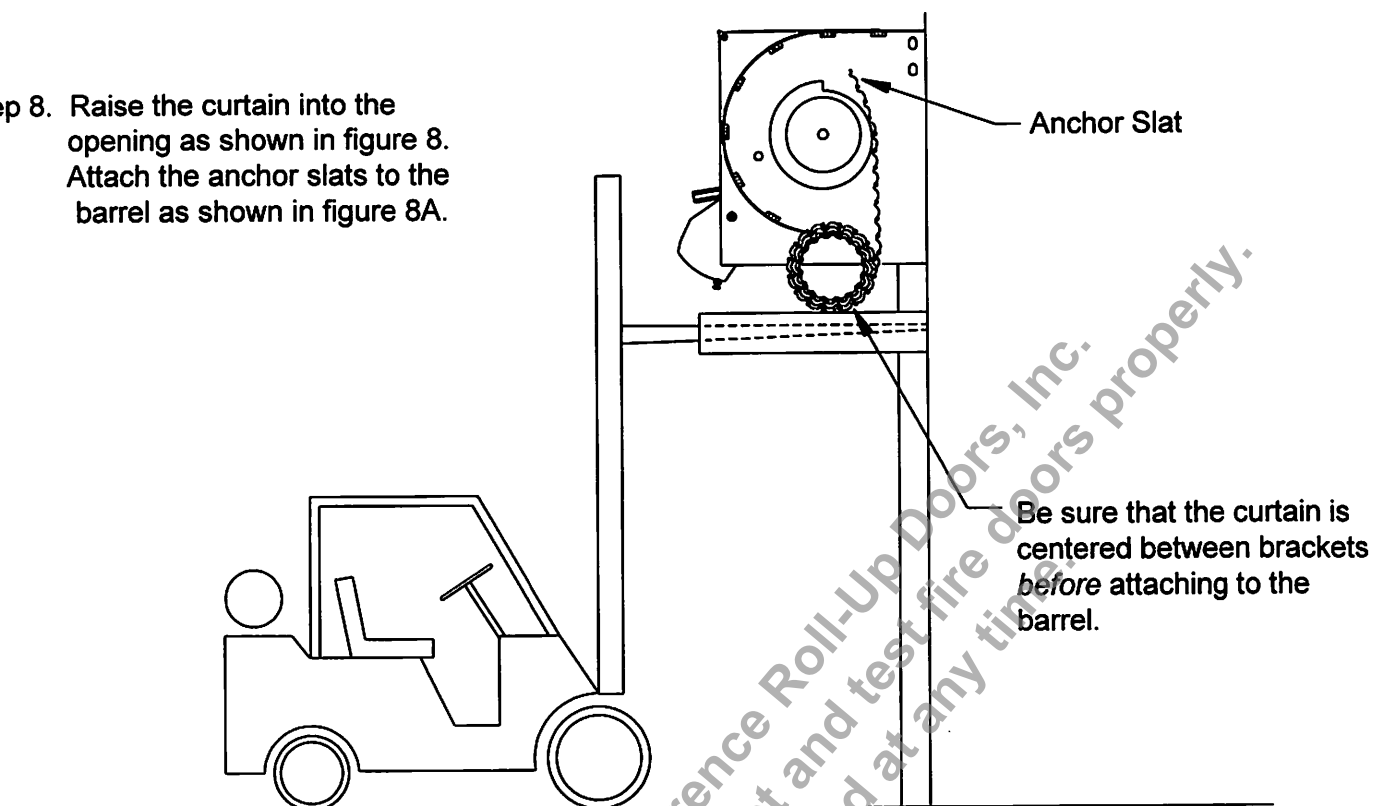
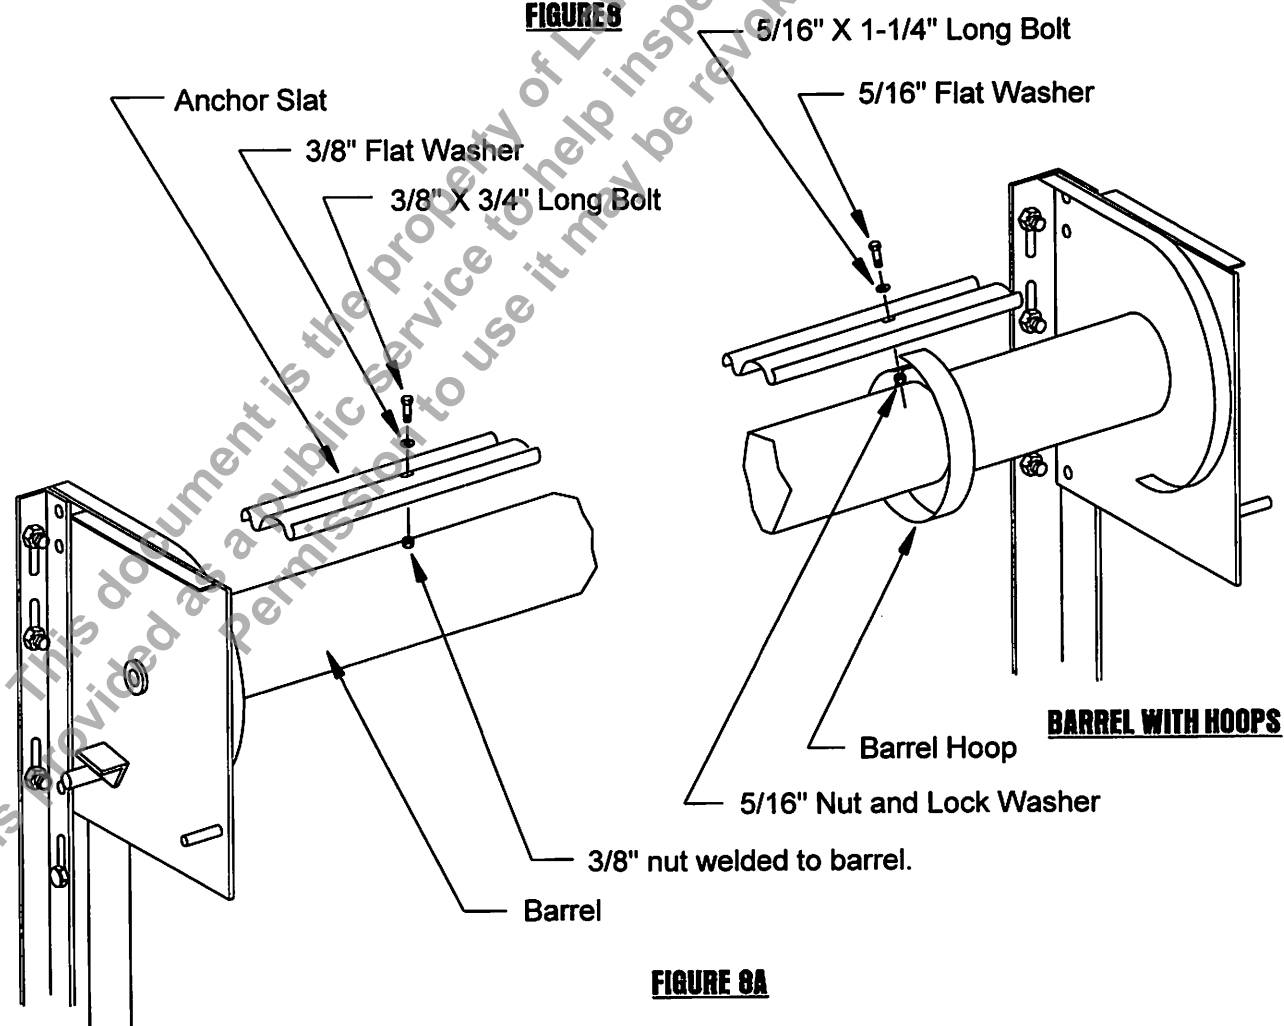

FIGURE 8
FIGURE 8A
Step 8. Raise the curtain into the opening as shown in figure 8. Attach the anchor slats to the barrel as shown in figure 8A.